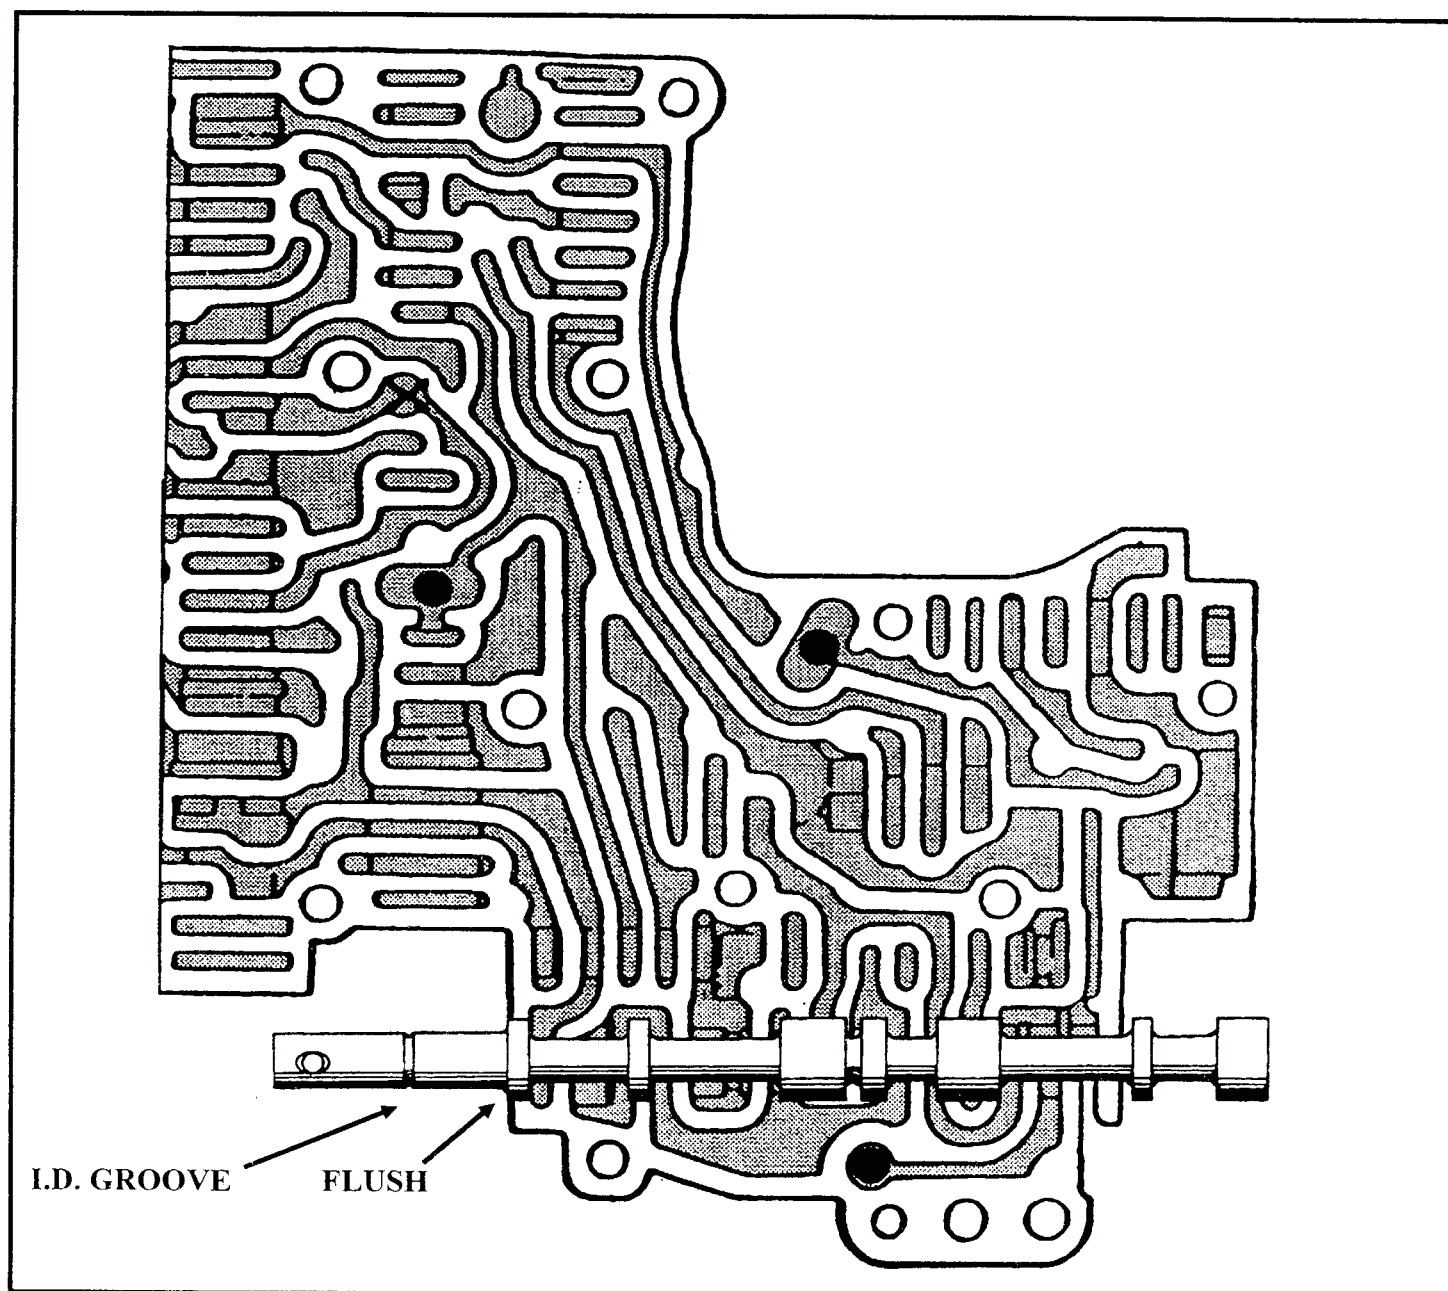

Figure 75
- (1) Measure the link hole in the manual valve to ensure that it is .157" in diameter, and has not elongated due to wear. It is also recommended to use the latest manual valve, with the I.D. groove near the hole, OEM #E8TZ-7C389-A (See Figure 75).
- (2) With the valve body installed on the transmission, place the manual lever in the "D2" position.
- (3) With the selector in the "D2" position, the first land on the manual valve should be flush with the valve body casting, as shown in Figure 75. However .010" below flush to .020" above flush with the valve body casting is totally acceptable.
- (4) Bend the manual valve link as necessary to achieve the dimensions listed above.